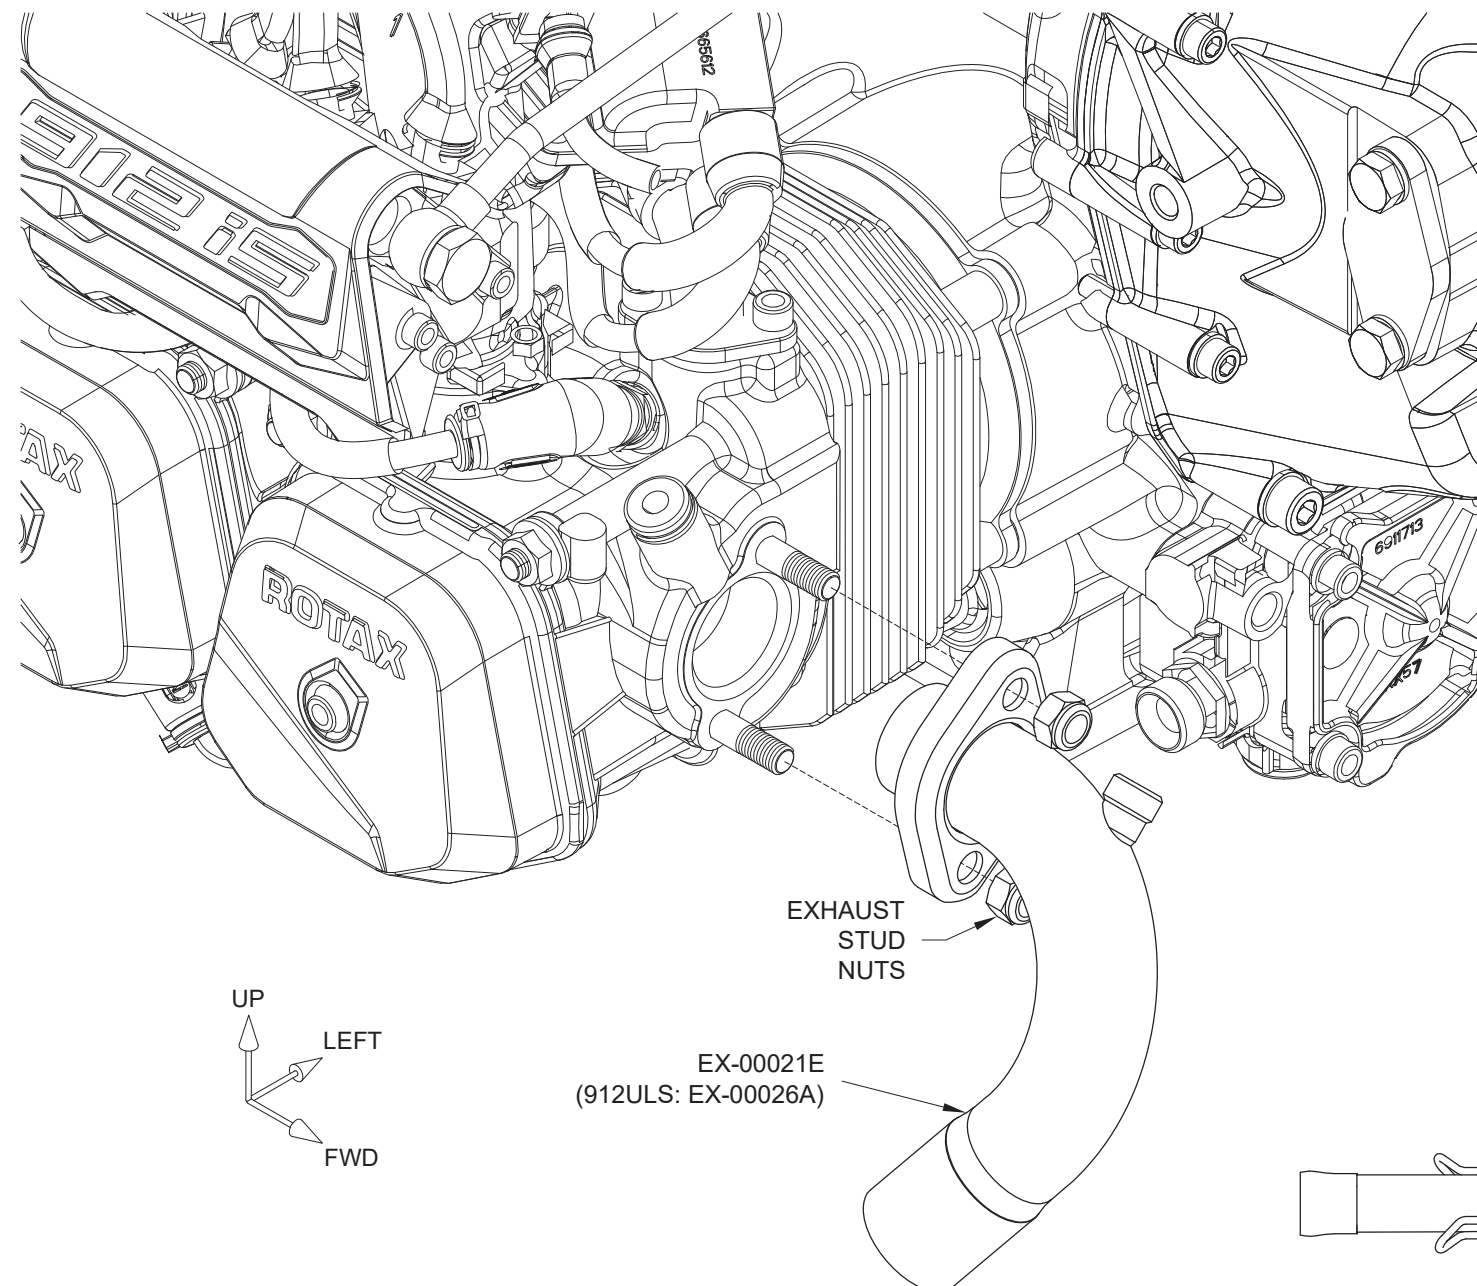

FIGURE 1: CYLINDER #1 EXHAUST INSTALLATION
Step 2: Identify the EX-00021E as shown in Figure 2, then install the EX-00021E into the right side forward exhaust port as shown in Figure 1. Tighten the exhaust nuts until the EX-00021E is seated in the cylinder, but still free to rotate with light pressure.